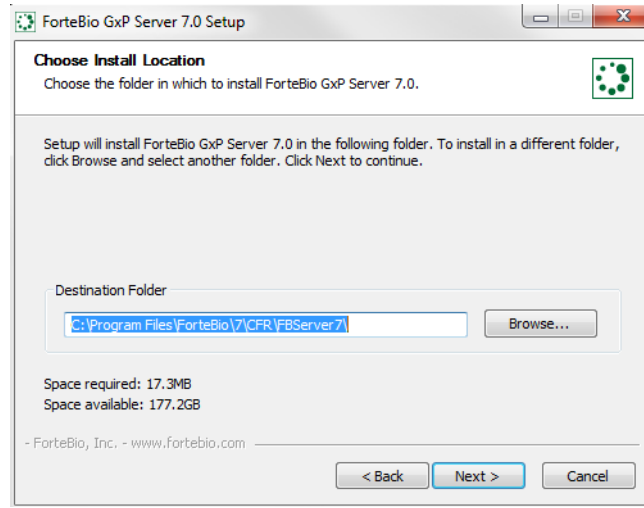

Figure B-12: Choose Install Location
4. Click **Next** to display the Choose Install Location dialog box (Figure B-12).